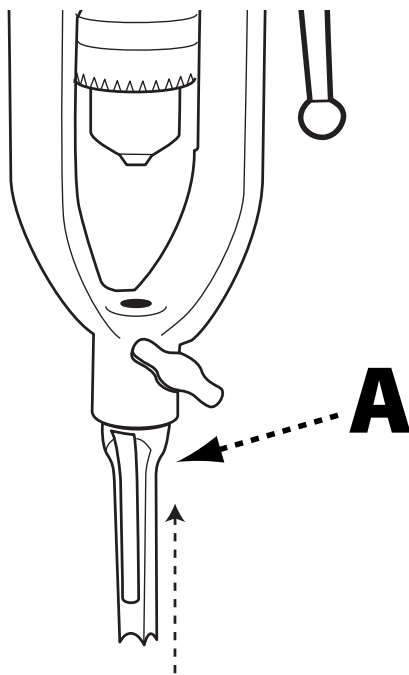

FIGURE 6
Select the desired chisel and drill bit. Remove the drill bit and insert the chisel (A) into the chisel holder with the wood ejection slot facing to the side. See Figure 6. The chisel slot should be facing in the direction of feed of the work-piece. If work-piece is feeding toward the left, the chisel opening should be toward the left. If feeding to the right the slot should face right.